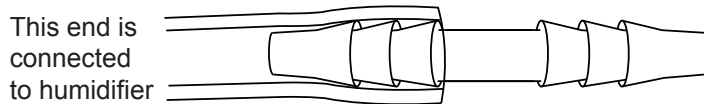

Fig. 17c
17.5 Push one end of the plastic tube onto the probe outlet. Slip the other end of the tube onto the plastic barbed connector at the end of the tubing already attached to the humidifier. Please see Fig. 17c.